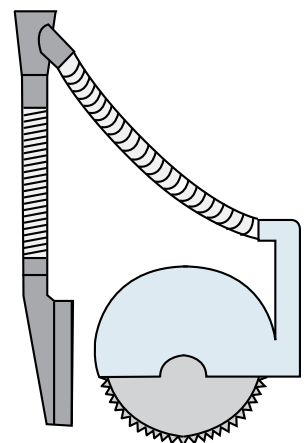

FIG. 34d
- d. Boot Hoods aka Radial Saw Hoods are best suited for use with radial/miter saws, serving as a supplemental capture zone in addition to any built in ports. [FIG. 34d]